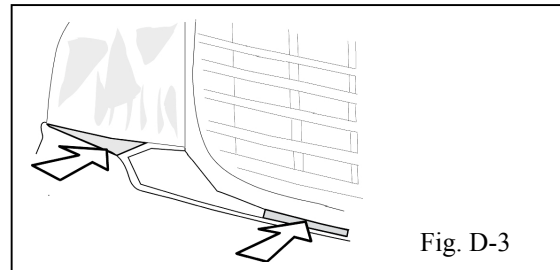

Fig. D-3
- ➡ 3. Place one (1) nylon flap between the bumper fascia and the headlight. Place one (1) nylon flap between the grill support and the bumper fascia (Fig. D-3.) Repeat on other side of the vehicle.